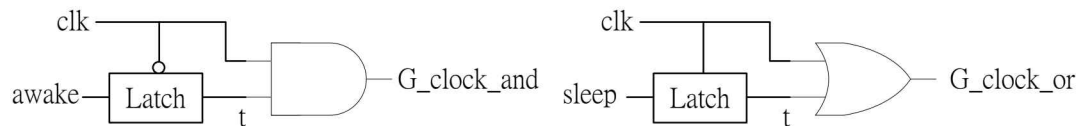

Fig. 4 Latch-based clock gating cells
- (b) Latch based clock gating cells as shown in Fig. 4 solve the glitch problems, which becomes the famous clock gating cells nowadays. Please use timing diagrams again that the glitches problem in 4.(a) can be fixed. (7%)